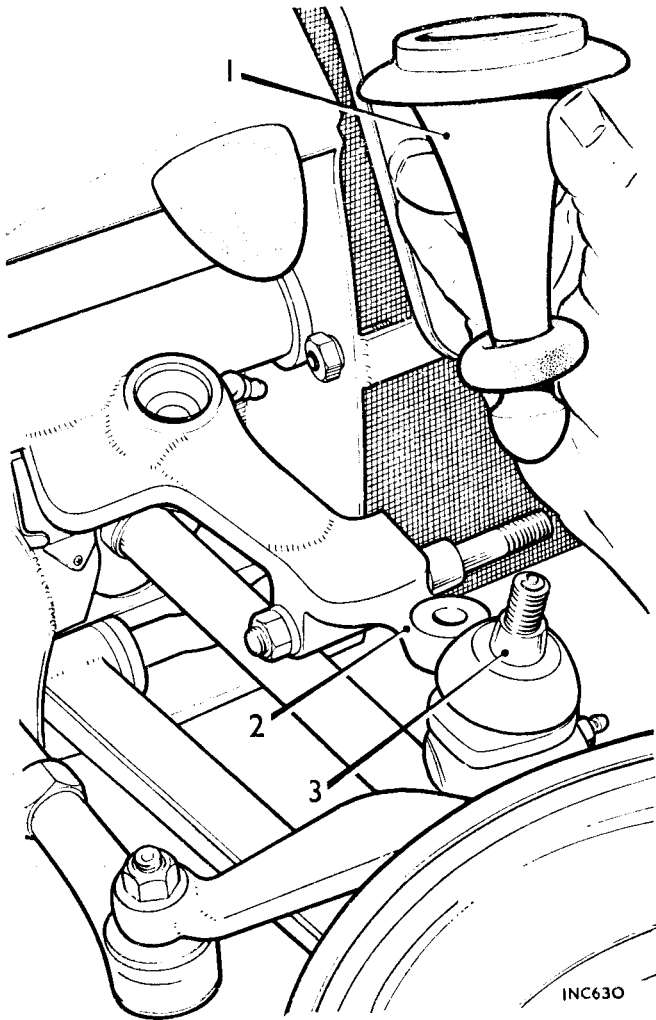

Fig. K.4
7. With the spring unit compressed, lever the strut from the spring unit, see Fig. K.4.
3. Remove the ball-pin retaining nut, release the upper suspension arm with Service tool 18G 1063 and withdraw the strut, see Fig. K.4.